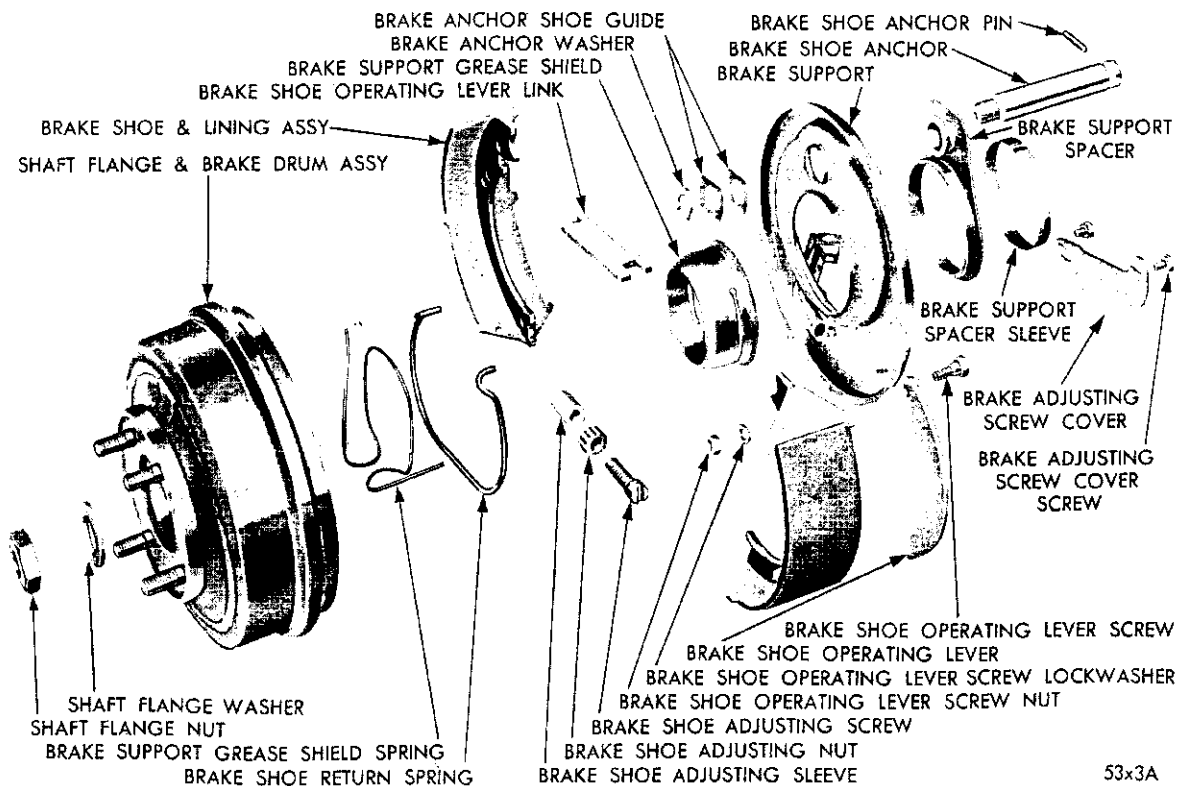
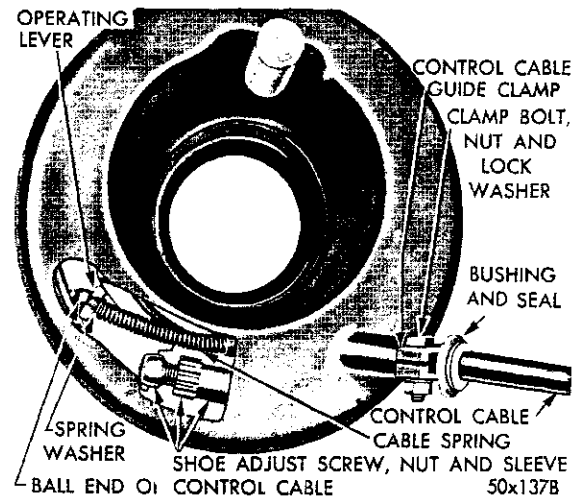
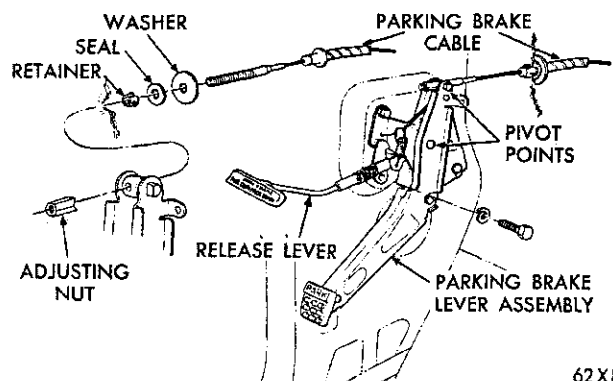

Fig. 4—Parking Brake Internal Expanding (Disassembled View)
Fig. 5—Rear View of Internal Parking Brake
Fig. 6—Parking Brake Pedal, Lever and Cable Assembly (Models SC-1, SC-2, SC-3)
(1) Disconnect the propeller shaft at the transmission.
(2) Engage the holding Tool C-3281 with the companion flange, loosen and remove the companion flange nut, lockwasher and flatwasher.
(3) Install the puller Tool C-452 on the companion flange, removing flange and brake drum.
(4) Disengage the ball end of cable from the operating lever (Fig. 5).
(5) Separate the shoes at the bottom, allowing the brake shoe adjusting nut, screw and sleeve to drop out, then release the shoes.
(6) Pry the brake shoe return spring up and over the right brake shoe pin, then work the spring out of the assembly.
(7) Pry out the brake shoe retaining washer and remove outer guide.
(8) Slide each shoe out from under the guide spring. (As the shoes are removed, the operating lever strut will drop out of place.)
(9) Separate the operating lever from the right brake shoe by removing nut, lockwasher and bolt.
(1) Remove the adjusting screw cover plate.
(2) Turn the brake shoe adjusting nut, as shown in Figure 5, to decrease shoe-to-drum clearance until a slight drag is felt on the drum. Back off the adjusting nut at least one full notch (using spanner wrench Tool C-3723) or until brake drum is free.
a. Removal (Figures 6 and 7)
(1) Release the parking brake.
(2) Remove the cable adjusting nut from the end of the cable at the upper end of parking brake lever.
(3) From the engine compartment, remove the upper end of cable from dash panel.
(4) Loosen the guide clamping bolt at the brake support, as shown in Figure 5, then remove the adjusting screw cover plate.
(5) Pry the ball end of the cable up and out of the operating lever slot with a screwdriver.
(6) Remove the control cable from the guide clamp bracket.
(1) Slide the cable into the guide clamp bracket at the brake support. Insert Tool C-3015 between the spring retainer washer and the ball on the end of cable.
(2) Hook the cable into the slot in the operating lever, with the lever between the ball and the washer, as shown in Figure 5. The cable must be installed so that the cable conduit is not pulled taut between any of the fastening points. To provide free cable operation, care must be used to prevent kinking of the housing, also, all bends must have a radius of 6 inches or more.
(3) Route cable from transmission up the front of dash panel.
(4) Install the plastic seal and washer on the cable (Fig. 4) and insert the cable through dash panel opening.
(5) Install the housing retainer.
(6) Insert the threaded end of the cable in the pedal trunnion, depress the foot pedal to do so, return foot pedal to released position, and install the cable adjusting nut.
(7) Tighten the cable adjusting nut so that the nut is seated on the trunnion without pulling any additional cable through the dash panel.
(8) After the adjustment has been completed, apply and release the foot pedal several times. Then, when fully released check to insure that the cable adjusting nut is seated on the trunnion. Readjust if necessary.
(9) To check for correct adjustment, apply approximately 60 pounds-foot pressure on the pad and measure pedal travel. The travel at the pad should not be more than $3\frac{1}{2}$ inches. With the foot pedal fully released, the parking brake must release and the propeller shaft revolve freely.